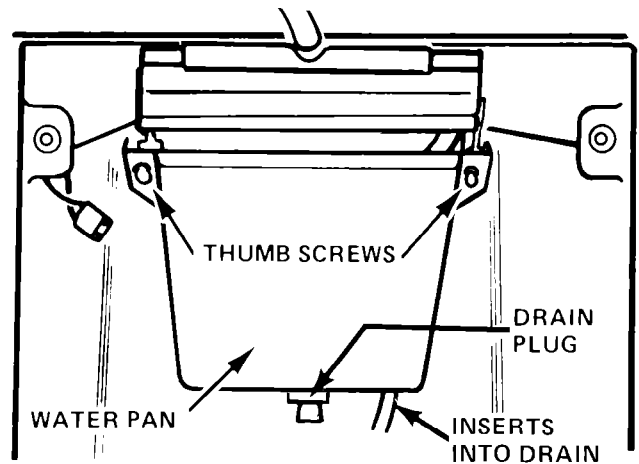

FIGURE 5
4. Drain the water pan (**Figure 5**) by removing the rubber plug. Replace the plug.
12. Remove water pan, (two thumb screws) **Figure 5.**